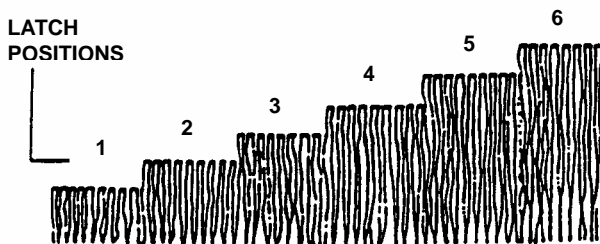

FIGURE 2.8
3. Set all wheels at the same cutting height. The highest cutting position is Notch 6. The lowest cutting position is Notch 1. See Figure 2.8.